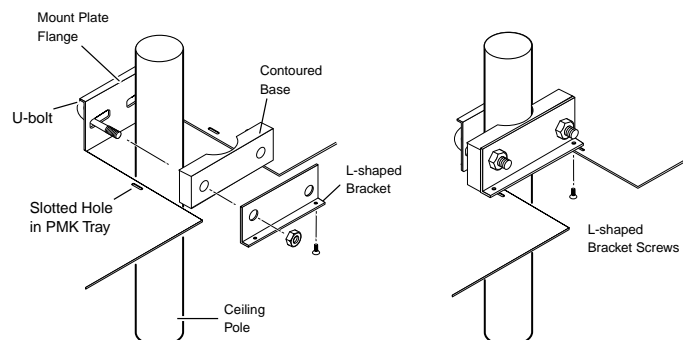

Figure 9. Hanging the Tray on the Pole
6. Assemble the U-bolt and the following parts in the following order (figure 9):